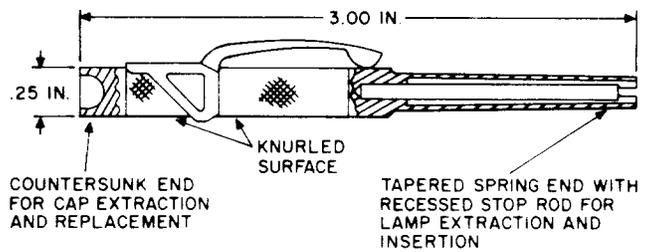

Fig. 12—KS-21144, L1, Lamp and Cap Extractor
2.13 KS-21144, L1: The KS-21144, L1, lamp and cap extractor (Fig. 12) is a double-ended tool, one end which is used to remove the cap and the T1-type lamp from the miniature lamp assemblies used in L4 and L5 terminal equipment. ◆The other end of